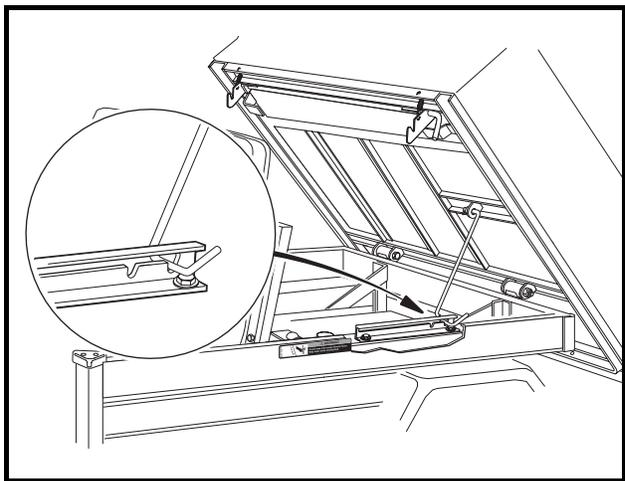

Figure 13 Prop Rod
**NOTE:** The vehicle is equipped with an automatically engaging prop rod (**Figure 13**), unless equipped with the hydraulic or electric bed lift option.
The vehicle is equipped with an automatically engaging prop rod and prop rod track on the driver side of the rear body (**Figure 13**). When pulling the bed latch handle and lifting the bed, the prop rod will come to rest in one of the notches in the prop rod track.